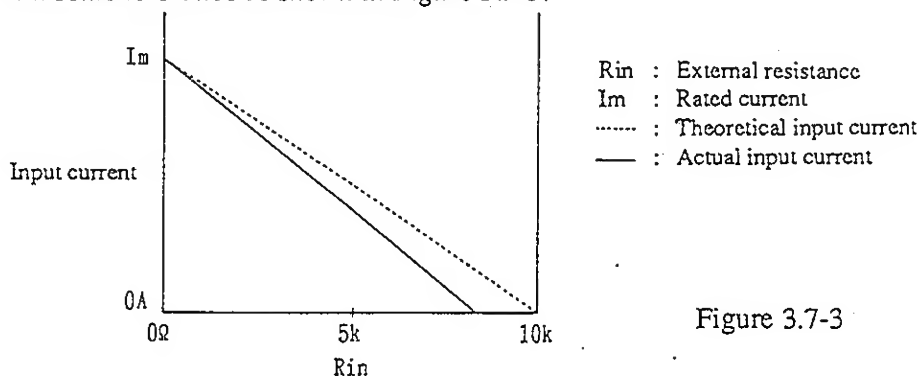

Figure 3.7-3
- The control circuit of the Electronic Load is designed so that the current ( $I_o$ ) becomes absolutely zero amperes when the external resistance ( $R_{in}$ ) is 10kΩ--this resistance with some tolerance as shown in Figure 3.7-3.